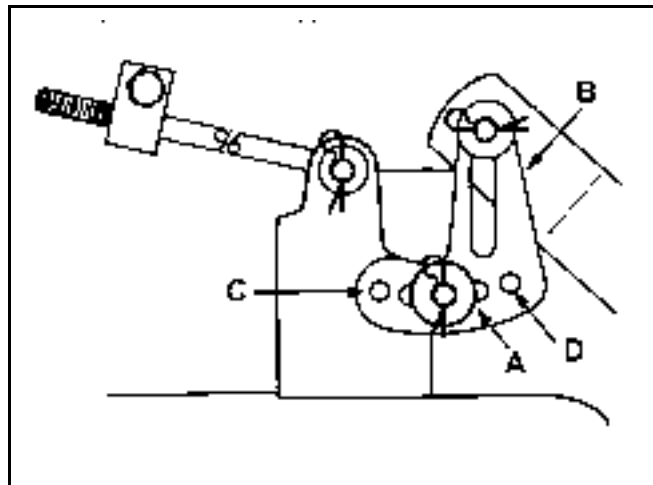

Figure 207
5. Remove the hairpin cotter and washer from the leveling bracket (Figure 207). To level the blade(s), reposition the leveling bracket in a different hole and install the washer and hairpin cotter. (Figure 207). A front hole lowers the blade height and a rear hole raises its height. Repeat this procedure on the opposite side of the mower.